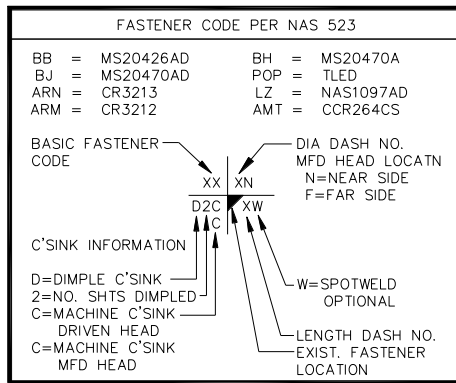
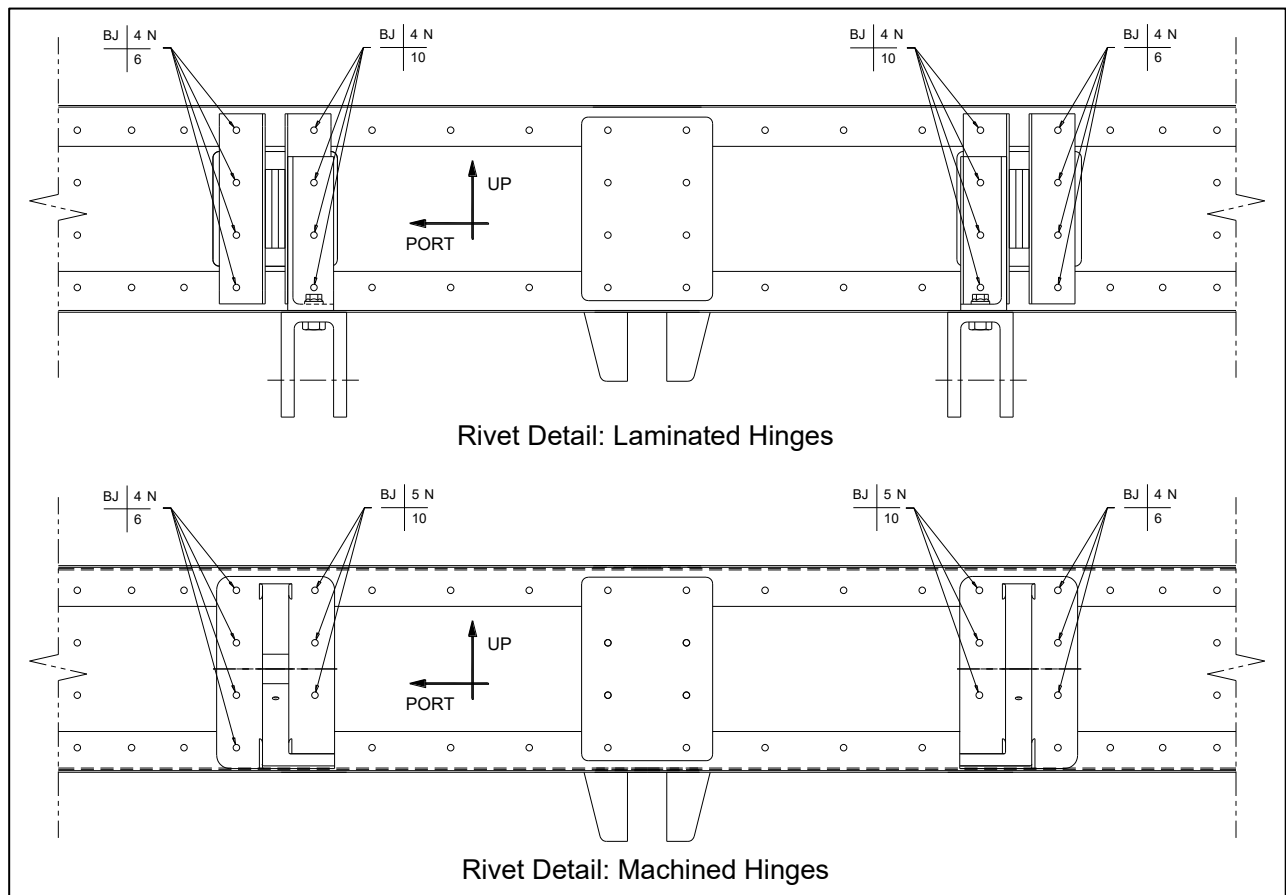

Figure 1: Fastener Codes
Figure 10: Inboard Hinge Installation (View Looking Forward at Rear Face of Spar)
13.7.6 Remove undersize screws one at a time and carefully enlarge each hole in the fitting to the final size: $\varnothing 0.125 - 0.135$ in for 1/8" solid rivets and $\varnothing 0.156 - 0.171$ for 5/32" solid rivets (see Figure 10). Reinstall each screw after drilling each hole to maintain the fittings position.
13.7.11 Refit both outboard elevator attach hinges, then pin all other elevator hinges in position. Run a string line through the centres of the outboard hinges and use as a reference to check the alignment of the other hinges. Correct any misalignment prior to riveting in place. Rivets used for hinge installation are MS20470AD4 except that the inboard machined hinges also use MS20470AD5 (see Figure 10; length to suit; rivet lengths provided are for reference only). See also Figure 1.